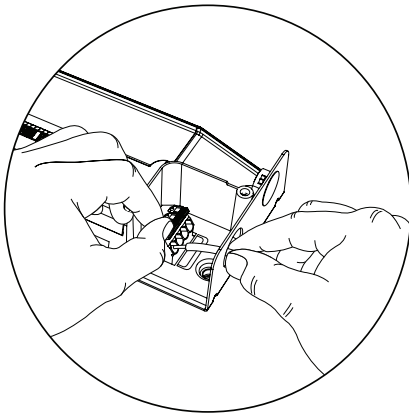

fig. 7
- Open appropriate terminals by flipping orange levers into UP position (see fig. 7).
- Make connections to the "Power and Signal Out" section; connecting to appropriate line, neutral, and ground terminals. (Note: wire strip length is 0.47 in [12 mm].) Insert appropriate conductors from Mains Power (see fig. 7).